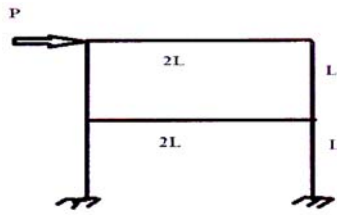

Fig 1
- b) What are approximate methods of analysis Compute the critical load of the frame shown in figure 1. All the members have the same EI. [12]